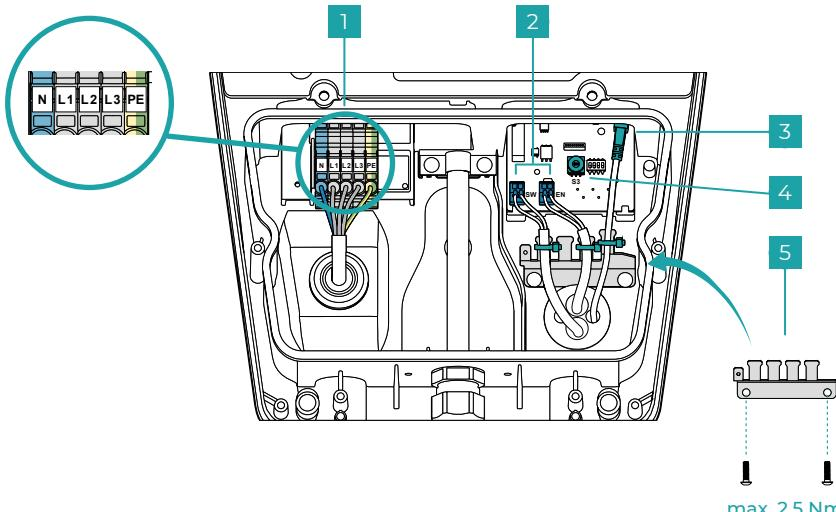

Fig. 6
An optional external blocking device (e.g. key-operated switch) can be connected to the internal interface (**Fig. 6 - no. 2 - EN interface**).
- Appropriately prepare the mains connecting cable ($\varnothing 10 - 20 \text{ mm} // \text{max. } 5*6 \text{ mm}^2$) and connect it as shown in **Fig. 6 - no. 1**. The illustration shows the mains connection via three phases. Use N, L1 and PE to connect the charging system to the mains via one phase.
- Configure the maximum charging current of 6 A to 16 A using rotary switch S3, as shown in **Fig. 6 - no. 4**.
- Optional: Prepare the data cables (Digital In (EN) / Digital Out (SW) and LAN) and connect them as shown in **Fig. 6 - no. 2 and no. 3**. Remove the cable bridge before connecting an external blocking device via Digital In.
Fit the strain relief as shown in **Fig. 6 - no. 5** and fix the data cables using cable ties. Mount the lower cover of the charging system as shown in **Fig. 7**.